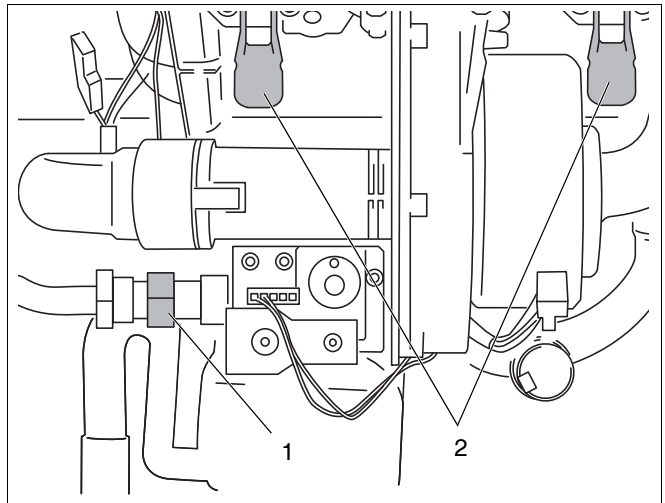
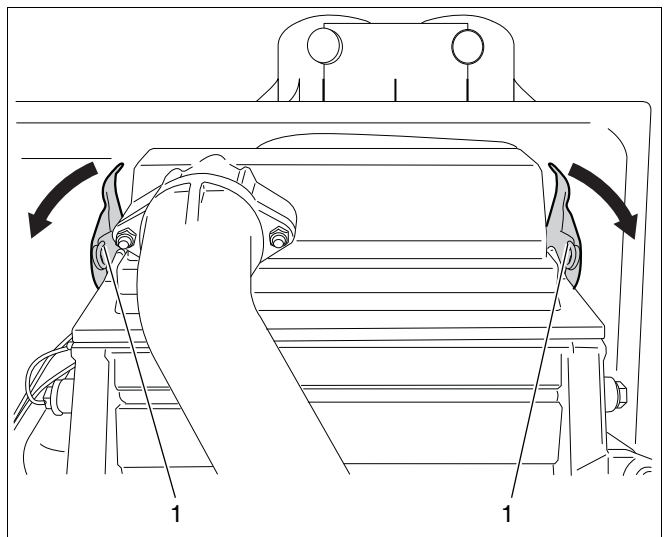

fig. 44 Loosening the union nut
fig. 45 Loosening the retaining clips
- Loosen the union nut of the gas control valve (see fig. 44, pos. 1).
- Loosen both sets of retaining clips (fig. 44, pos. 2 and fig. 45, pos. 1) of the burner cover and remove the burner cover with the fan unit and the gas burner fitting.